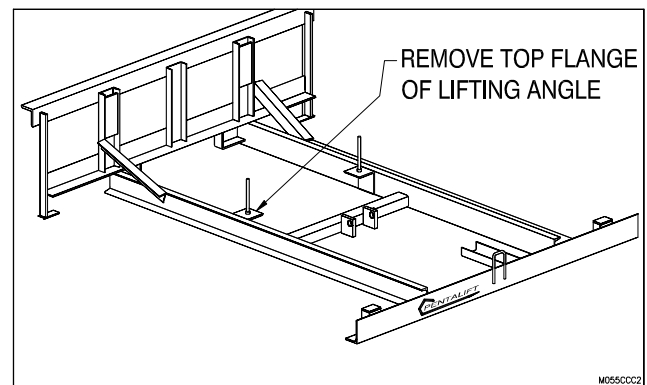

Figure 10: Top Flange Removal Diagram
19. Once the leveler has been fully installed, remove the top flange of the lifting angle to allow clearance for the Hold Down Release Bar. (See Figure 10: Top Flange Removal Diagram on page 8)